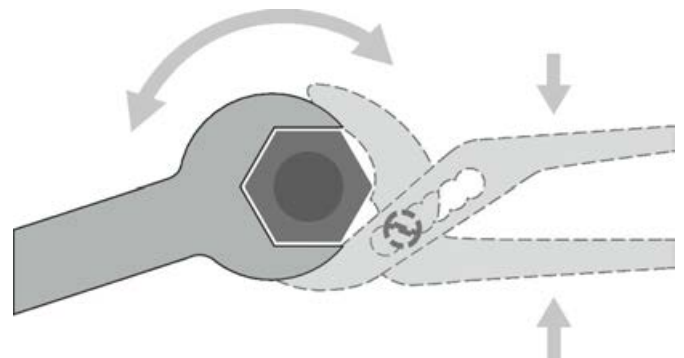

Fig. 34: Using water pump pliers to counter the tightening force
1. ► Hold the threaded pipe tail of the heat exchanger with water pump pliers (Fig. 34 /2).
2. ► Hold the threaded pipe tail with the pliers while you use a spanner (hexagonal profile, Fig. 34 /1) to connect the heat exchanger to the pipework (pipework by others).